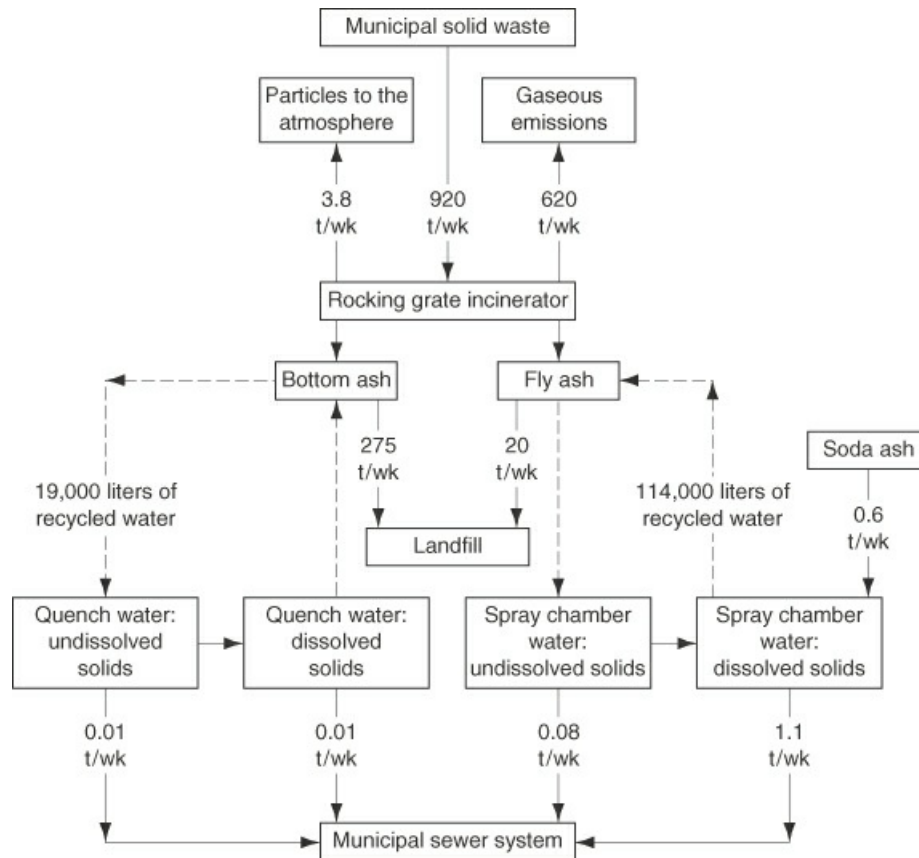

Figure P3.2.17
****3.2.17** Examine Figure P3.2.17. Is the material balance satisfactory? (t/wk means tons per week.)